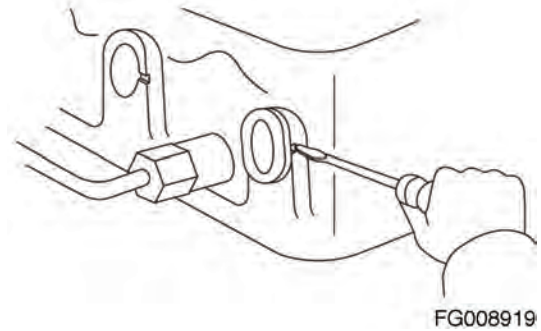
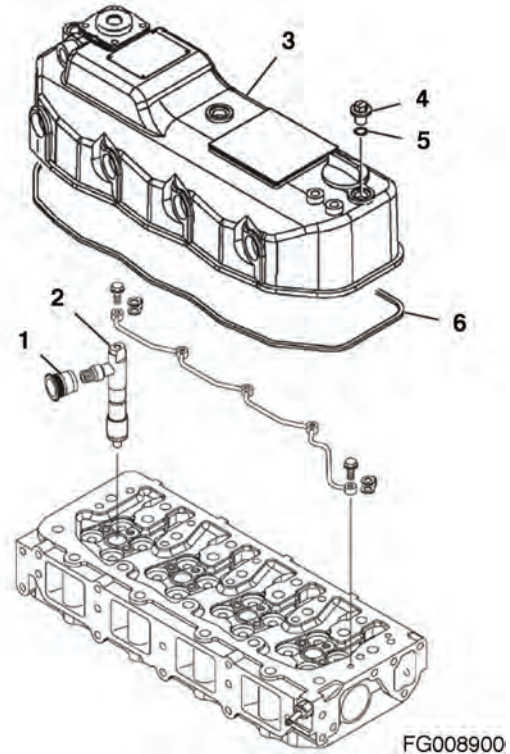

Figure 122
Figure 123
2. Use a flat-blade screwdriver (Figure 122) to remove the fuel injection line grommets (1, Figure 123) from the valve cover (3, Figure 123) and fuel injectors (2, Figure 123). There is a notch at the 3 o'clock position in the valve cover opening to insert the screwdriver.
3. Remove the valve cover nuts (4, Figure 123).
4. Remove the O-ring (5, Figure 123) on each valve cover nut.
5. Remove the valve cover (3, Figure 123). Discard the valve cover gasket (6, Figure 123).